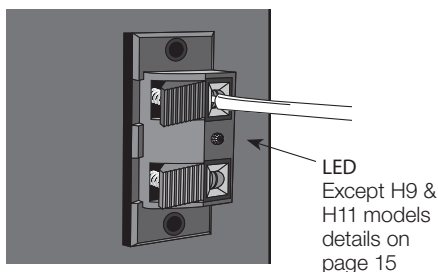

figure 13
4. Release toggle to secure wire in connector **(figure 13)**.